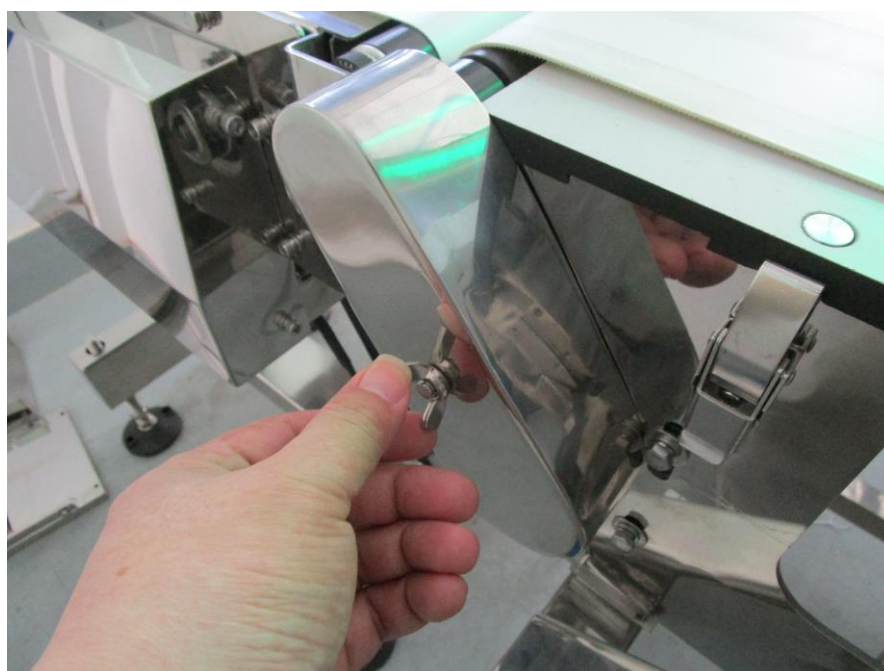

Figure 4-13 Installing the cover
6) After the adjustment of the conveyor belt is completed, install the timing belt cover (Figure 4-13), taking care not to rub the rotating parts.